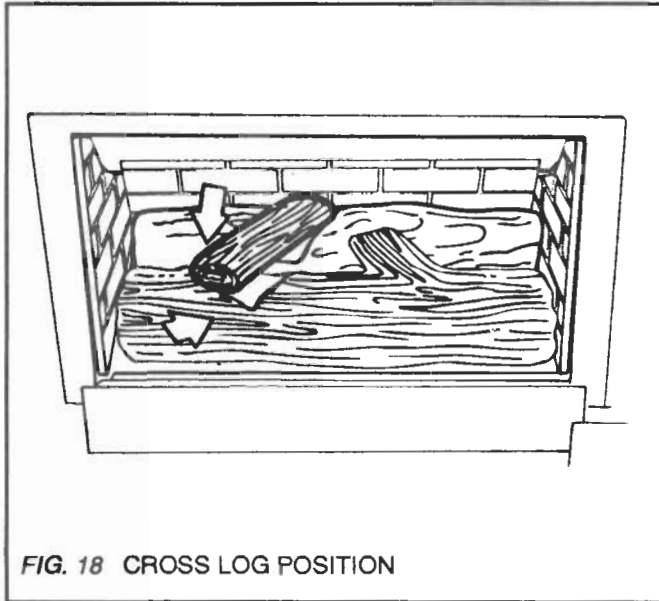

FIG. 18 CROSS LOG POSITION
12.5. Place the cross log in position (see fig. 18). The front of this log is indicated by the letter "F" embossed on its underside. Make sure that the front of the log is seated inside the hollow in the front log and is not raised in front of it.